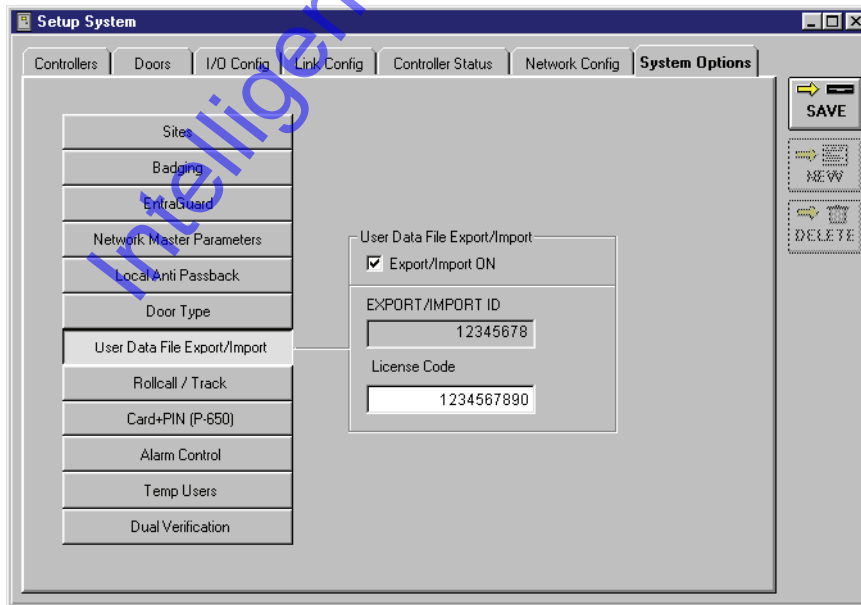

Figure 11-4: System Options Tab - User Data File Export/Import Enabled
NOTE: Mishandling the User Data File Export/Import feature may damage your user file database. Only allow a systems integration expert to use this feature. A License Code must be entered to activate the User Data File Export/Import feature. To receive a License Code you must call Keri Systems Customer Support at 1-800-260-5265 or 408-451-2520. They will need the EXPORT/IMPORT ID number reported by the Doors program once the feature is enabled (see Figure 11-4 on page 4 of this section). With the EXPORT/IMPORT ID number, Customer Support will give you a corresponding License Code. The License Code is assigned to the specific computer used for User Data File Export/Import. User Data File Export/Import cannot be moved from one computer to another. If you attempt to do so, the License Code will be invalid.
5. The EXPORT/IMPORT ID should now be visible inside the EXPORT/IMPORT ID box (see Figure 11-4). Have this number ready when you contact Keri Systems Customer Support to receive your License Code.